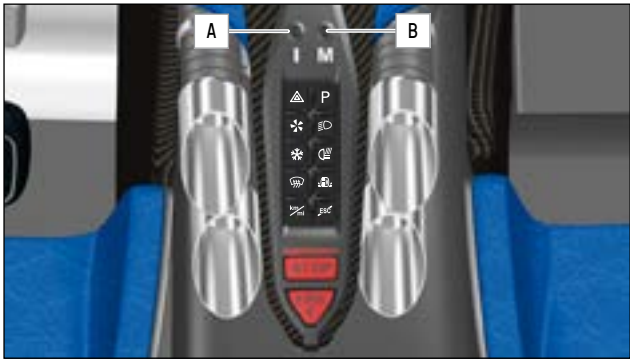

FIG.70 MASTER AND IGNITION SWITCH ON THE CENTRE CONSOLE
1. Push the Master Switch **B** (» Fig.70) up to the ON position.
2. Push the Ignition Switch **A** (» Fig.70) up to the ON position.
Always switch on the Master Switch **B** (» Fig.70) first and then the Ignition Switch **A** (» Fig.70).
- ▶ Press Master Switch **B** [» Fig.70] up to the ON position.
- ▶ Press Ignition Switch **A** [» Fig.70] up to the ON position.
When leaving the vehicle, make sure that Ignition Switch **A** (» Fig.70) and the Master Switch **B** (» Fig.70) are in the OFF position. A pop-up on the display appears after the Ignition Switch **A** (» Fig.70) has been switched off asking to keep the Master Switch **B** (» Fig.70) on until the Engine ECU's after-run process is complete.